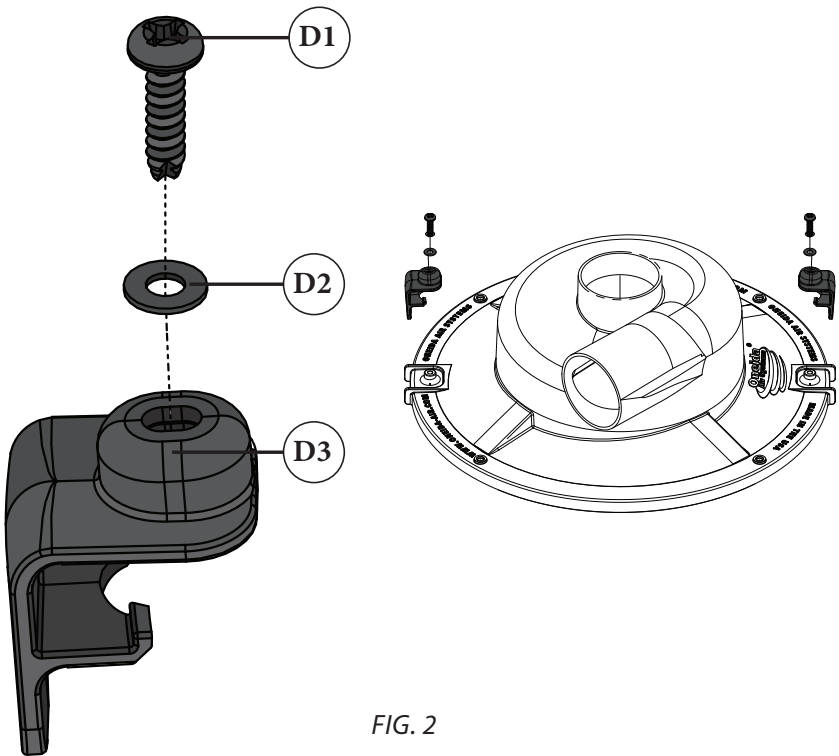

FIG. 2
- 2** Secure each Latch (D3) to the Lid Separator (A) using one Washer (D2), and one Screw (D1) as shown in [FIG. 2]